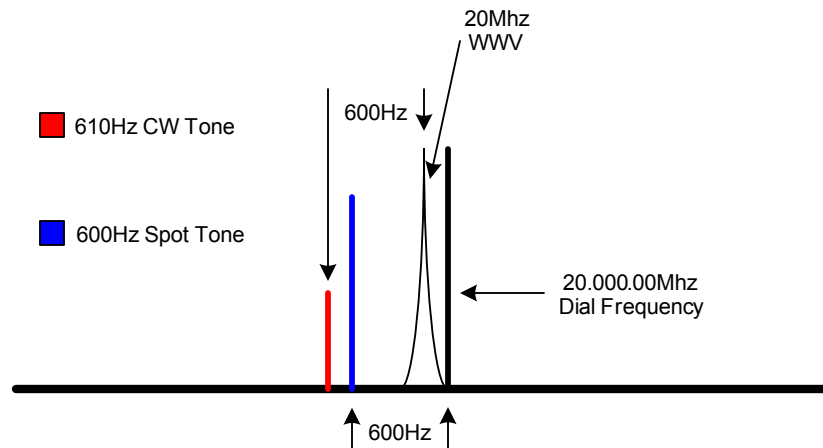

Figure 14: TCXO out of Alignment using CW Method
You will not be using any test equipment in this procedure other than the radio itself. Again, prior to making any adjustments, you need to allow the radio to warm up for at least 2 hours. Once the Mark V has warmed up, adjust your VFO to the 20Mhz WWV station. This means using the setup in Paragraph 4.4, the only marker that should be lit on the expanded tuning scale when the radio is tuned to 20Mhz, is the center marker. If this is not the case, then you are not tuned properly. Next go to CW mode, you should hear a tone. This tone can be adjusted from 300 – 1050Hz at 50Hz intervals using your Pitch knob on the bottom right of the Mark V. By setting menu 3-5 to “A1 (CW) Pitch” you should see the current pitch setting in the carrier offset display on the bottom of your LED display. By rotating the Pitch Knob, set this to “C-600”, this should set the carrier offset such that you will hear a 600Hz tone when you zero beat a station within the center of your IF pass-band. Next turn on your “Spot” button on the lower right of the Mark V. This engages an internal oscillator that is set to the same pitch that you just set with your Pitch knob. Now there are two separate tones, one of them is generated due to the CW carrier offset that you have setup via the Pitch Knob. The other is the internal oscillator set to the same pitch. If your Mark V’s TCXO is aligned properly this should sound like one tone with no or extremely slow oscillations. If your TCXO is out of alignment then you will hear two pitches that sound like they are oscillating; this literally sounds like wahwahwahwah. If out of alignment, the reason why you will hear this two tone oscillation is because the CW pitch is set to a 600Hz offset from that of the received carrier in the IF pass-band, where as the “Spot” oscillator derives its pitch directly from the pitch setting that was adjusted via the Pitch Knob, ours being exactly 600Hz away from dial frequency. If the TCXO is out of alignment, then the received carrier from WWV will be offset from dial frequency, thus something other than a 600Hz tone will be heard. And with the Spot engaged, you will hear the oscillation between the two tones. For a visual of this, see Figure 14 below.